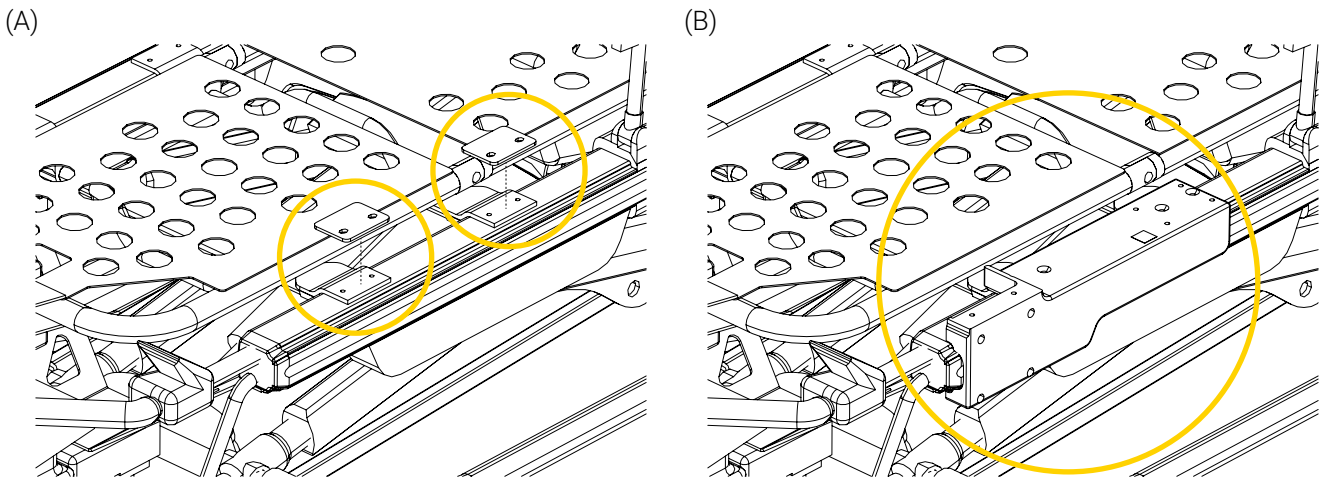

Figure 10: Placement of the spacers and exterior part of the clamp block
2. Place two (2) spacers on top of the stretcher frame (Figure 10 A), followed by the exterior part of the clamp block on the outer frame of the stretcher (Figure 10 B), aligning the screw holes.